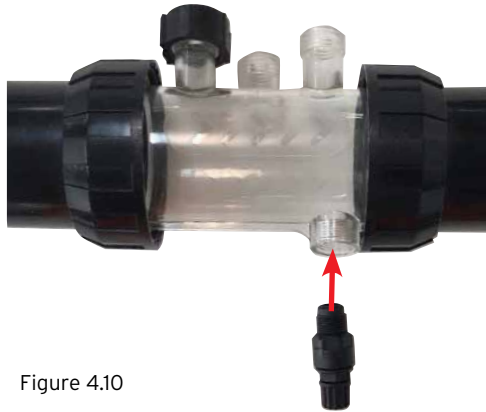

Figure 4.10
- Screw the acid injection point, into the probe injection point housing (refer Figure 4.10). This will require plumbing thread tape only. **DO NOT USE SEALING COMPOUNDS, OR PIPE DOPE.**